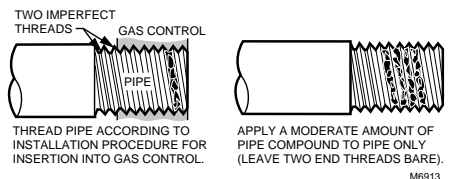

Fig. 3. Use moderate amount of pipe compound.
6. Connect pipe to control inlet and outlet. Use wrench on either side of the pipe outlet. Refer to Fig. 3 through 5.